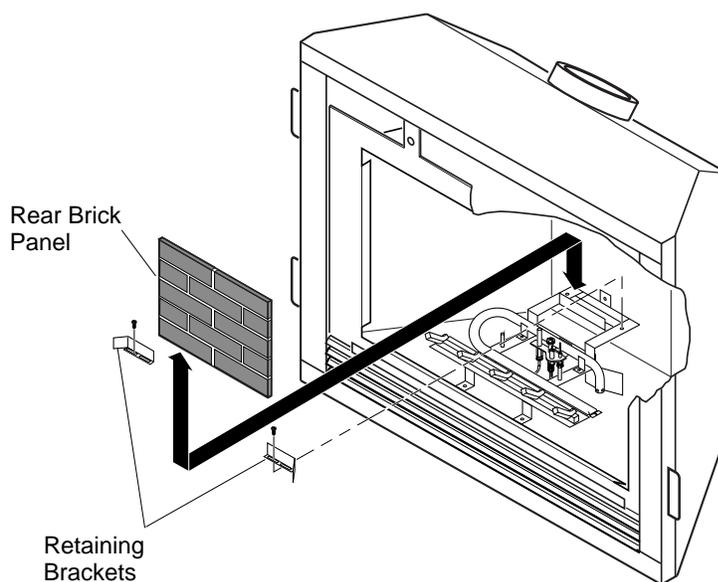

Figure 49 - Installing Rear Brick Panel and Retainer Brackets
3. Install rear brick panel first. Rest bottom edge of panel on back edge of grate (see Figure 49).